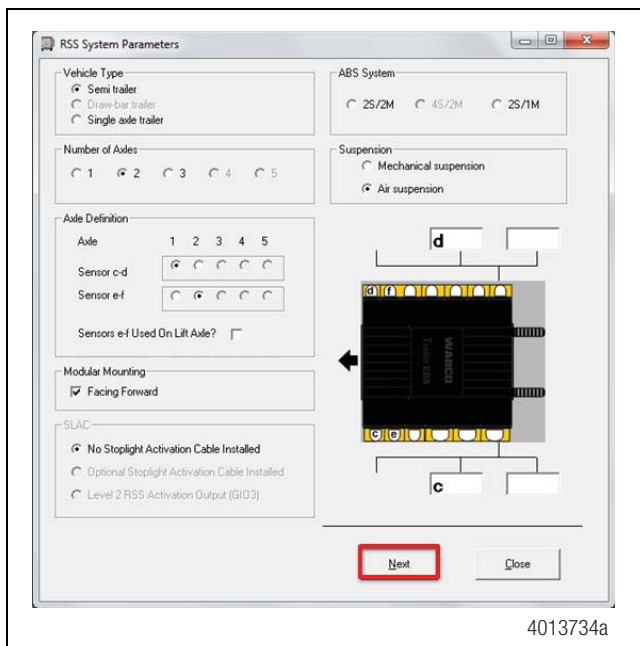

Figure 6
- From the RSS System Parameters screen, verify that the settings are correct, then click **Next**. Figure 6.